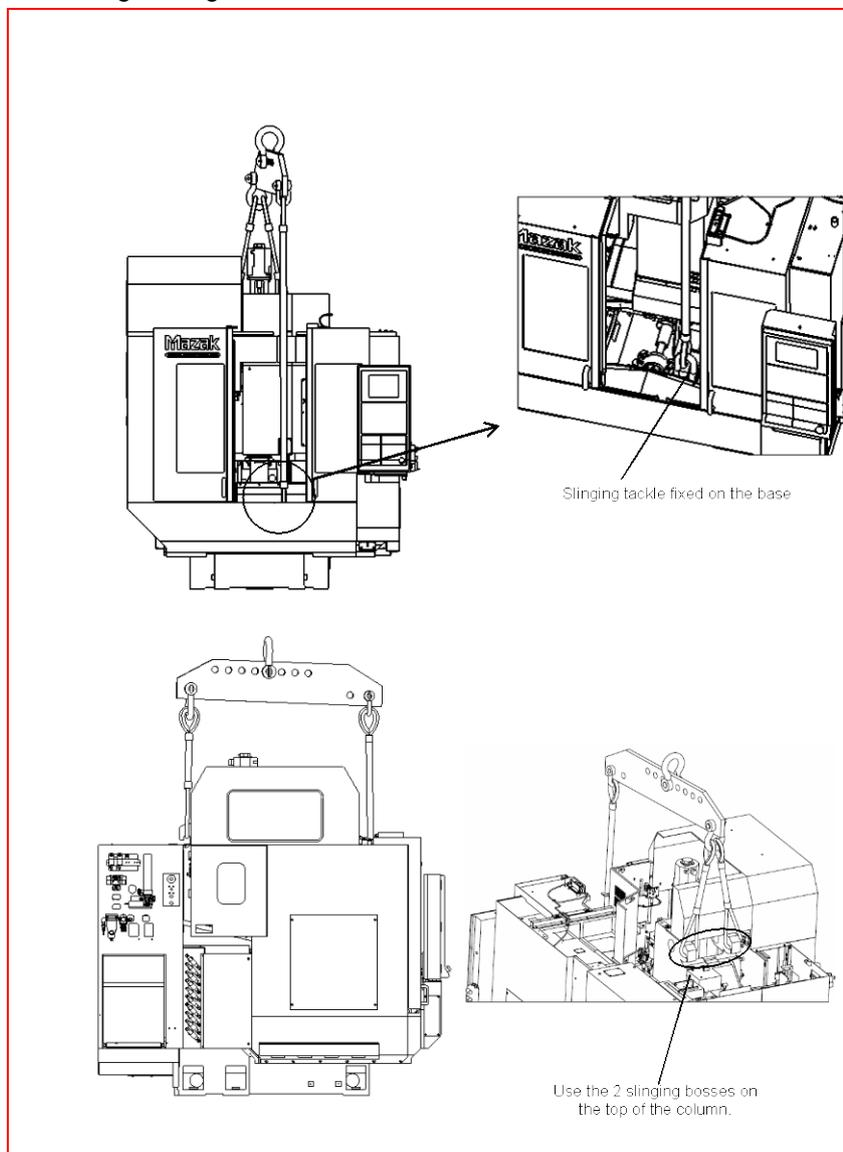

Fig. 15-1 How to sling the machine tool
A machine is slung as shown in Fig.15-1. Observe the following without fail.
- (1) Before slinging the machine, fix all the structures with fixtures as directed in Fig.15-1 without fail.
- (2) For slinging, use a special sling as shown in Fig.15-1.
- (3) Use wire rope strong and safe enough for slinging and free from looseness and damage.
- (4) Protect the part of the rope which contacts with the machine by applying cloth or wooden blocks and watch that the rope would not touch a weak part of the machine.
- (5) Watch carefully so that the wire rope does not touch pipes, hydraulic unit, cables, controllers,